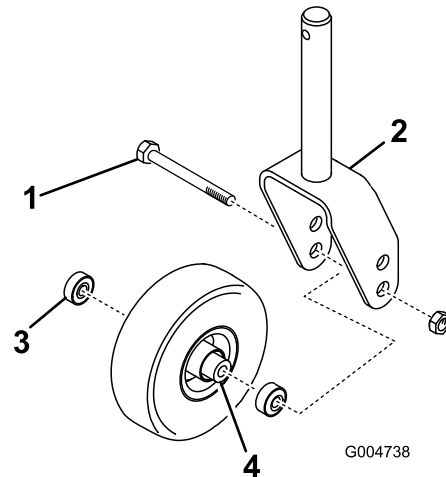

Figure 139
1. Remove the locknut from the bolt holding the caster-wheel assembly between the caster fork or the caster-pivot arm (Figure 139).
2. Grasp the caster wheel and slide the bolt out of the fork or pivot arm (Figure 139).
3. Remove the bearing from the wheel hub and allow the bearing spacer to fall out (Figure 139).
4. Remove the bearing from the opposite side of the wheel hub (Figure 139).